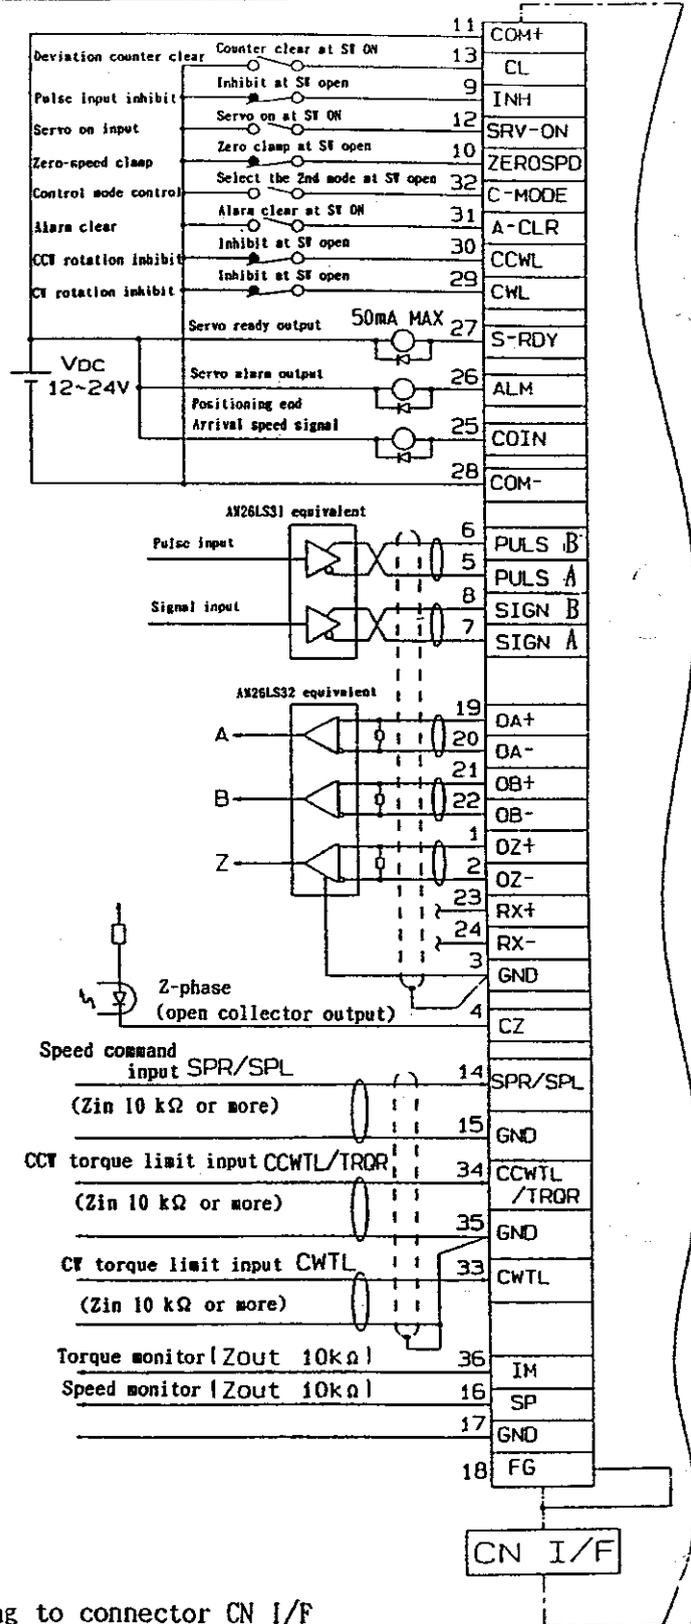

Fig. 2. Example of wiring to connector CN I/F
- (1) Please make wiring per Fig. 2, "Wiring example to connector, CN I/F". On the pin arrangement of CN I/F, refer to section 13-1.
- (2) Please prepare a power supply for a control signal with DC12-24V, used for external control connected between COM + and COM -.
- (3) Please shorten the wiring of the driver and other equipment as much as possible (3 m or shorter).
- (4) Please separate this wiring from the power lines (R, S, T, U, V, W, E), as much as possible (30 cm or more). Please avoid passing both wires into the same duct or binding them together.
- (5) Please do not apply more than DC 24V, 50mA, to each terminal of the control output (S-RDY, ALM, COIN), or avoid applying reverse polarity. This may cause damage to the driver.
- (6) If you directly drive a relay with the control output terminals, please install a diode in parallel with the relay as Fig. 2 shows. If you do not install a diode, or install it in reverse direction, this may cause damage to the driver.
- (7) As per Fig. 2, please use shielded, twisted pair wires for a signal line of CN I/F (analog command input, command pulse input, feed-back pulse output of the encoder etc.). Please ground the shield to the signal ground (GND) of the driver. (Though the shield of other equipment normally open, in case affected by extreme noise, connect shield of both driver and other equipment to frame ground.)
Refer to Fig. 2 of page 8 as well.